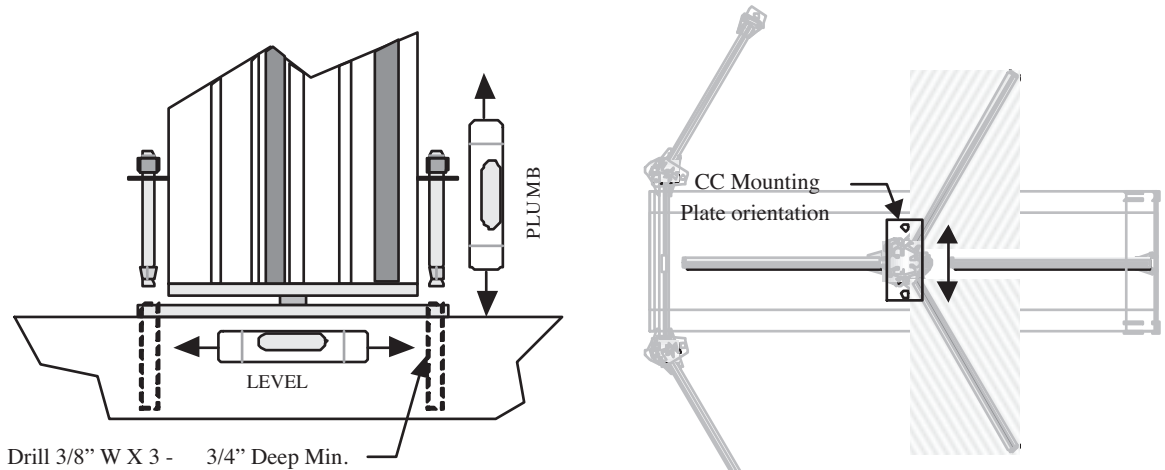

Figure 39
- **SQUARE** and **PLUMB** the Center Column (**Figure 39**).
- Anchor the Center Column (**Figure 39**).